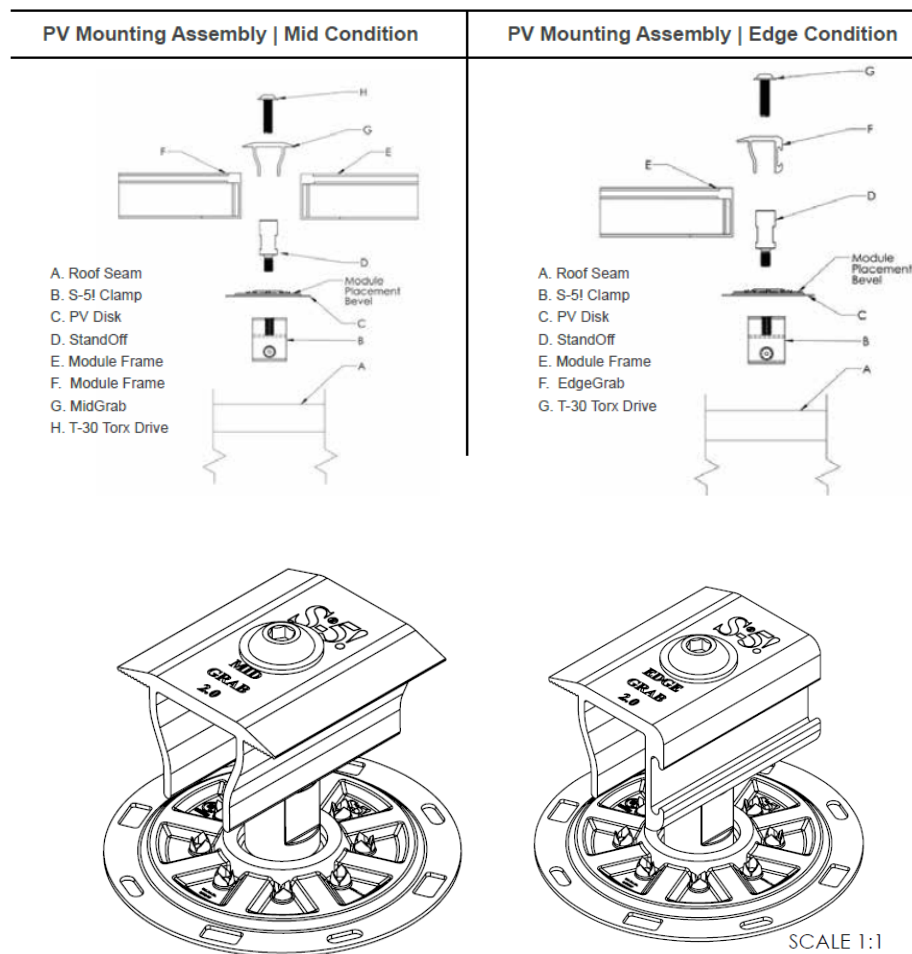

FIGURE 1 – PVKIT 2.0 Components and Mountings
4.1 S-5! PVKIT 2.0: The S-5! PVKIT 2.0® system is used to attach PV Module Frames through the use of electrically bonded clamps, the MidGrab and EdgeGrab, which attach using a standoff with the PV Disk into a standing seam clamp. The PVKIT 2.0 assemblies are detailed in Figure 1 of this report. The EdgeGrab 2.0 and MidGrab 2.0 components are manufactured from 6000 series aluminum and the standoff and PV disc are manufactured from 300 series stainless steel. The S-5! PVKIT 2.0 is attached to the standing seam clamps using the standoff which is fabricated with an M8 x 0.58 in (14.7 mm) threaded post to attach to each clamp. The T-30 Torx Drive screw used to make the attachment of the PV Module Frame to the PVKIT 2.0 are 300 stainless steel M8-1.25x 30 mm.